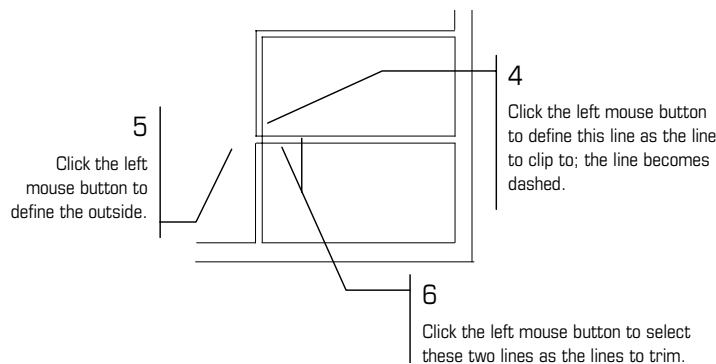

Figure 3.24: Completing a 1-line trim
4. Click on the inside wall line, shown in Figure 3.24. The line you select becomes dashed. You are prompted to "Point to outside."